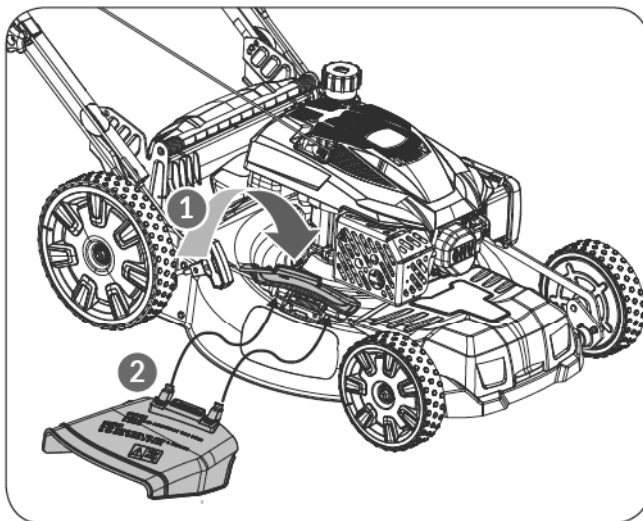

Figure 6
1. Lift the mulch cover on the side of the mower. (See **Figure 6, Illustration 1**)
2. Slide the two hooks of the side discharge cover under the hinge pin on mulch cover assembly. Lower the mulch cover. (See **Figure 6, Illustration 2**)